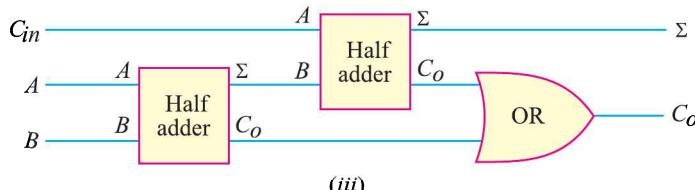

Fig. 26.58
(ii) **Full Adder (FA).** A full adder adds two binary bits plus a carry input (C_{in}) to produce the sum (Σ) and carry (C_o) outputs. Fig. 26.58 (i) shows the block diagram of a full adder. It is formed by using two half adder circuits and an OR gate as shown in Fig. 26.58 (iii). Note the carry-in input which requires the extra half adder. The output of the OR gate forms the carry-out (C_o) output.
The full adder has three inputs : C_{in} , A and B. These three inputs must be added to get the Σ and C_o outputs. Fig. 26.58 (ii) shows the truth table for a full adder. It shows all the possible combinations of A, B and C_{in} . The full adder is used for binary addition in all places except the 1s place which means 2s, 4s, 8s etc.